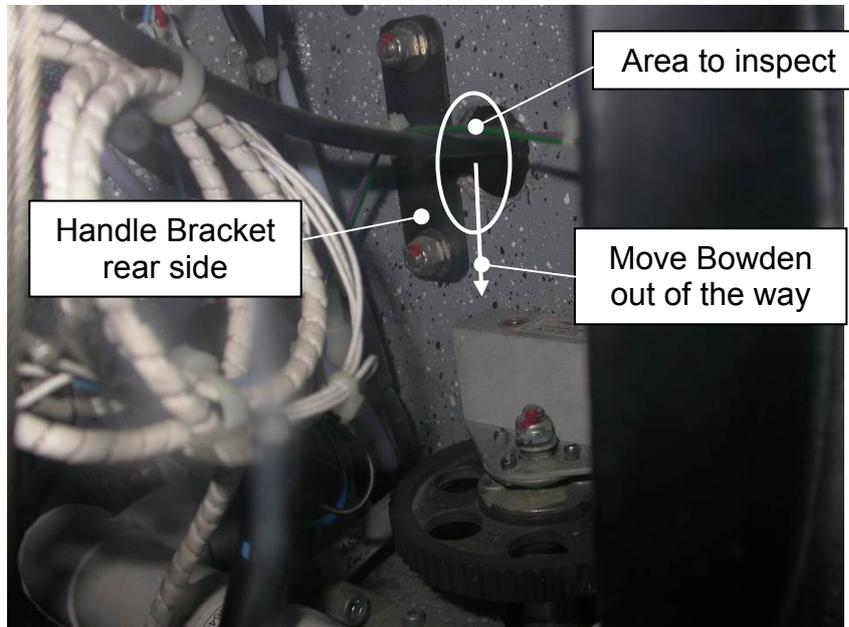

Fig.3- Handle bracket from luggage area side.
- Fig. 3 shows the where you need to inspect the bracket handle from the rear side.